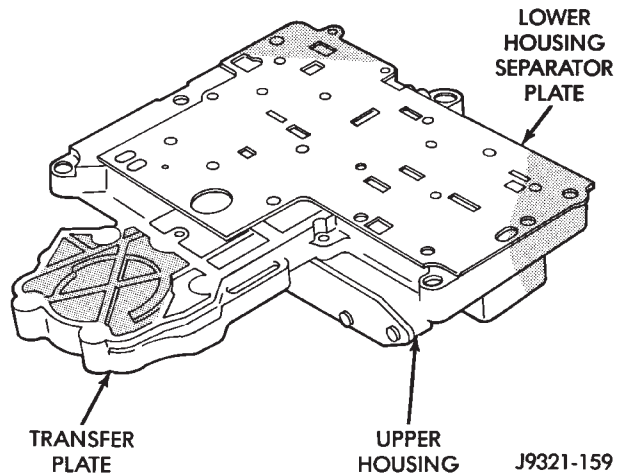

Fig. 119 Lower Housing Separator Plate Installation—46RH
(2) Position transfer plate assembly on upper housing (Fig. 119).
(3) Position lower housing separator plate on transfer plate (Fig. 119).